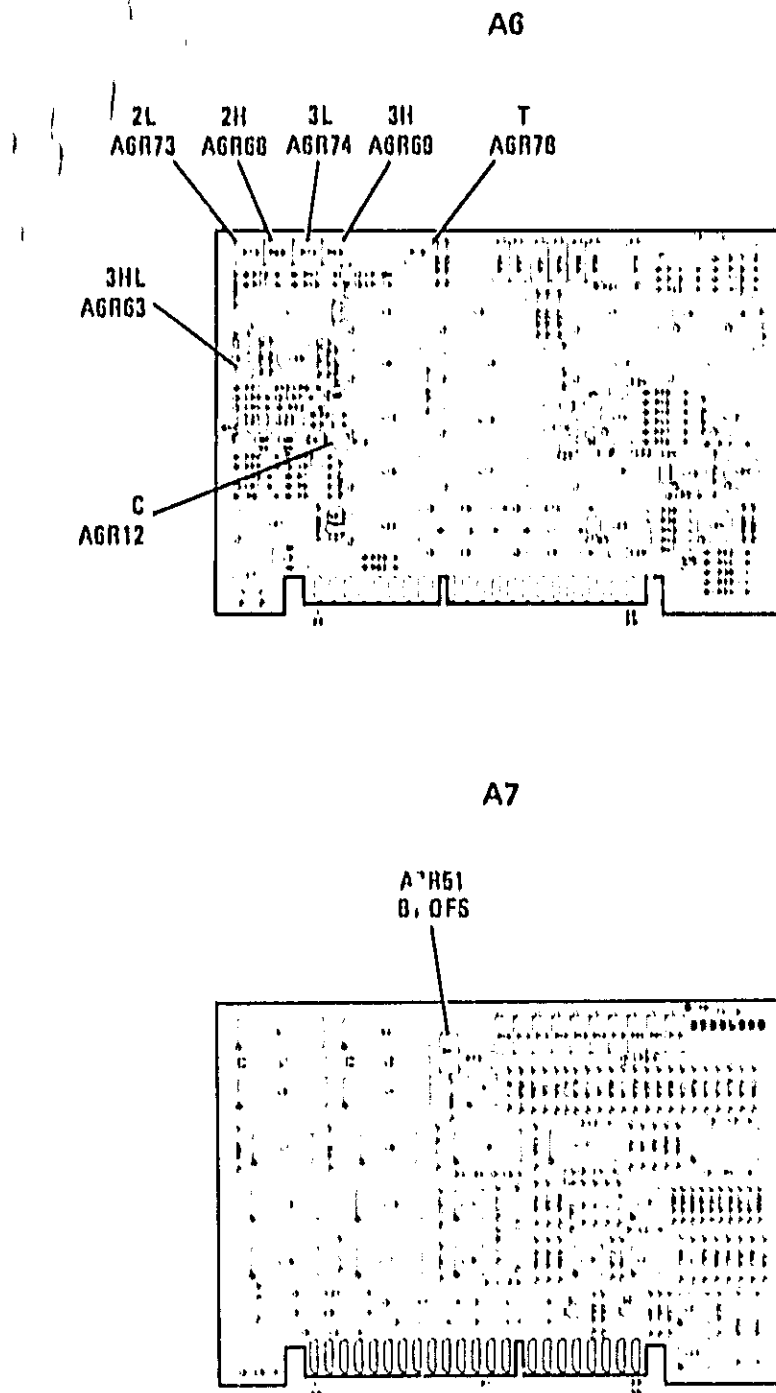
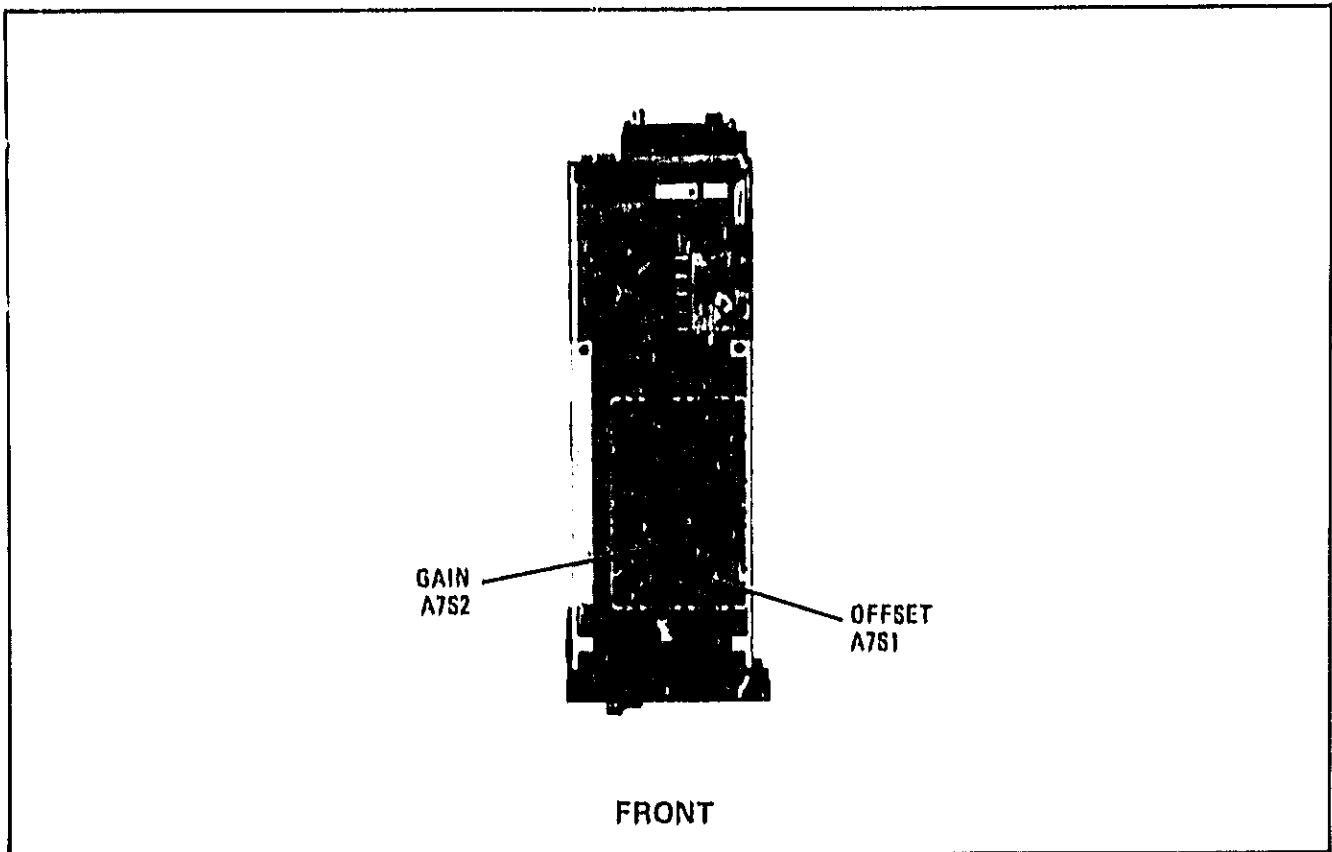
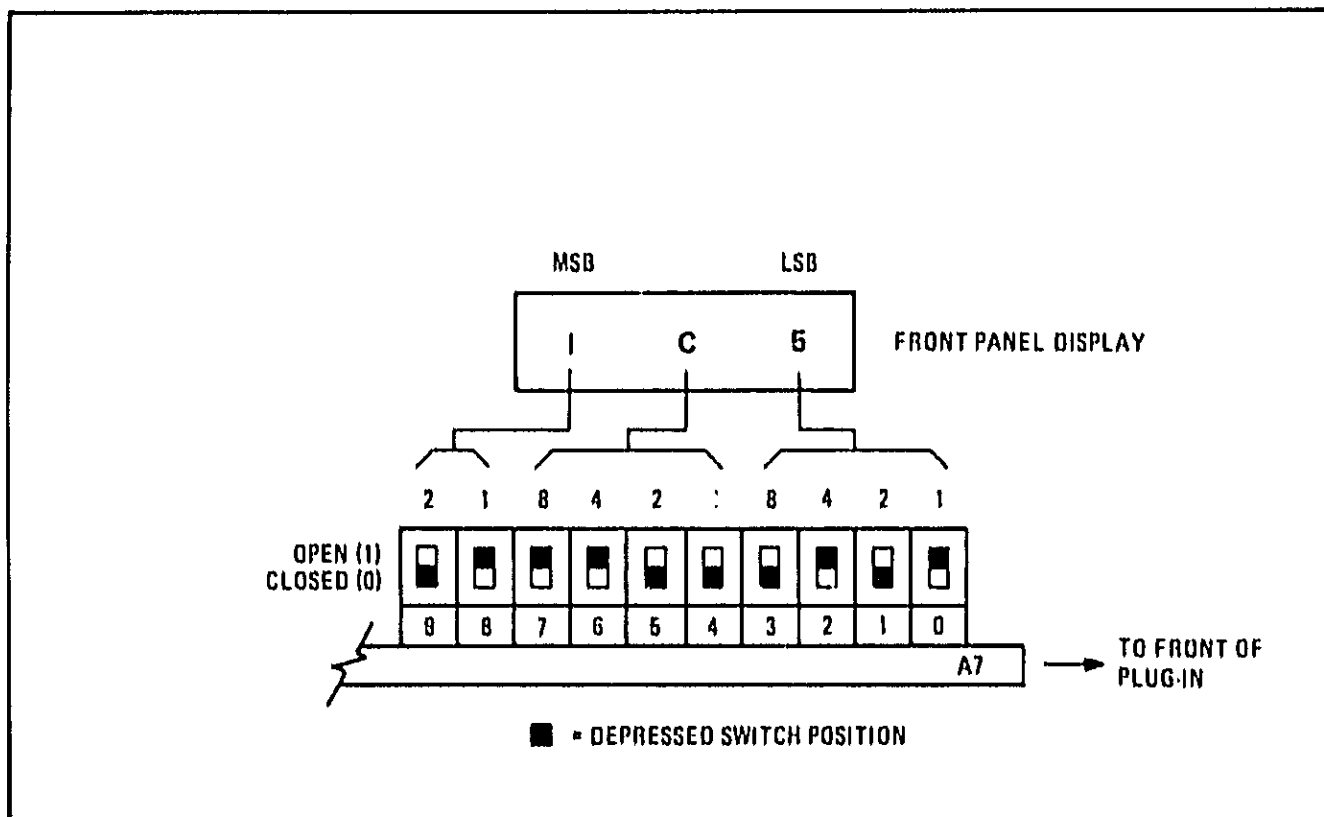

Figure 5-18. Slow Speed YTM to YO Tracking Adjustment Locations
Figure 5-19. YTM to YO Tracking Calibration Switch Location
Figure 5-20. YTM to YO Tracking Calibration Switch Configuration
3. Preset A6R63 (3HL) to midrange. Refer to Figure 5-18 for adjustment locations.
4. Preset A6R78 (T) and A6R12 (C) 1/4 turn from the full counter-clockwise position.
7. Enter the number displayed on the 83590A POWER display into A7S1 as shown in Figure 5-20. Refer to Figure 5-19 for the switch location.
9. Enter the number displayed on the 83590A POWER display into A7S2 as shown in Figure 5-20. Refer to Figure 5-19 for the switch location.